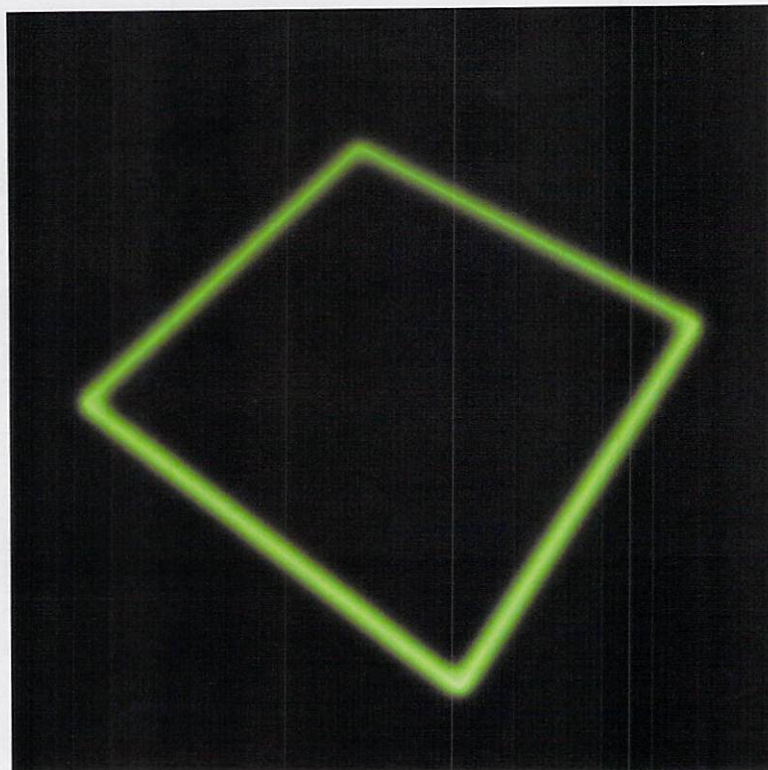

FIGURE 8 – THE PRIMARY GRID TEXTURE ON THE OUT GLOW COLOR OF THE PLANE'S SHADER
**26** I set the U and V width of the grid to .005. In the place2DtextureNode for the grid, I set the repeat UV attributes to 1. Rendering this shows a nice glowing green border that goes around the plane. See figure 8.